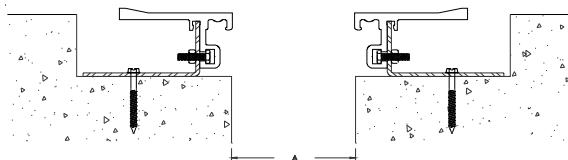

Figure 4
**STEP 8.** Select base member assembly and the base member assembly anchors. Place the base member assemblies back into position in the blockout. Shim the base member assemblies as necessary to properly align them with the finished floor. Ensure that the base member assemblies are level, plumb, properly aligned, and flush with the finished floor. Using the base member assembly fasteners, attach the base member assembly to the concrete. Repeat this procedure for the opposite base member assembly, see Figure 4, and for each subsequent section of the joint cover system.